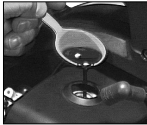

Fig. 9
- 8. Pour 1 teaspoon of clean 2-cycle oil into the combustion chamber (Fig. 9). Pull starter rope slowly several times to coat internal components. Replace spark plug.